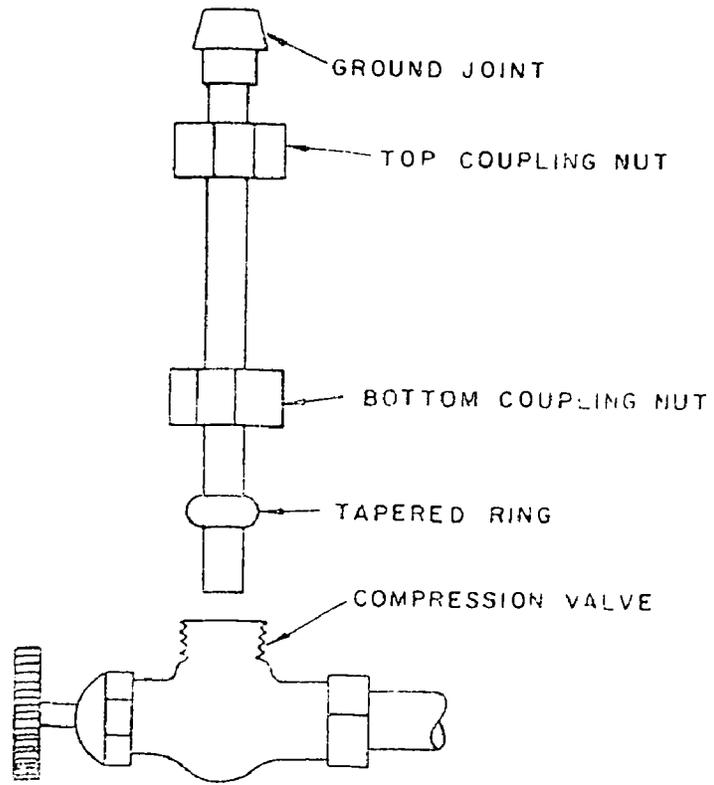

Fig. 3
- 8. What type of joint is illustrated in figure 3 (Diagram 32), that will be used to connect to faucets? (Use the diagram below.)